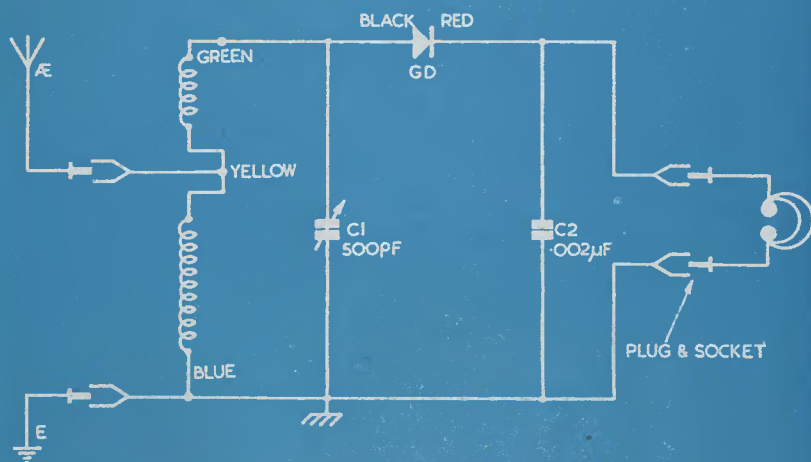

FIG. 1
On the chassis you will notice a broken line (- - -) rectangle, marked 'K'. It shows the limits of a small aluminium box placed beneath the chassis, which contains all the components of the HF oscillator. To simplify the construction, E has been placed so that it leads directly into the oscillator box, which measures approx. $3'' \times 3\frac{1}{2}'' \times 2''$ and is made from $1/16''$ aluminium. The rectangles T2 and T3 show where the mains transformers are placed, and the small rectangle (F) where the flange carrying 01 is mounted. The holes in the front flange are marked according to the symbols used in the circuit diagram of Fig. 1. M is the microphone input plug.
From Fig. 1 it will be seen that there is nothing unusual in the circuit, this being a
Several of these are possible to the basic circuit shown in Fig. 1, and their adoption will largely depend on both the location of the constructor and the container within which the set is built.